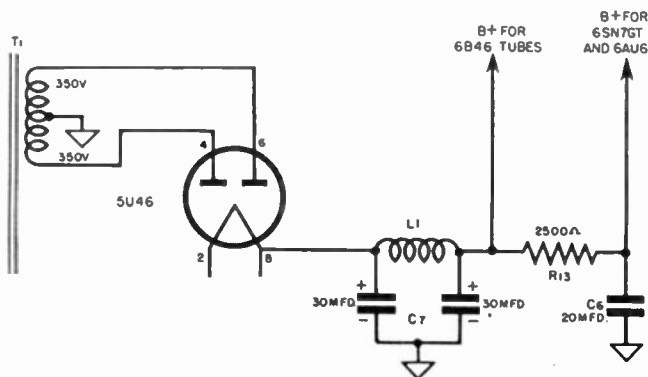

Fig. 5-5. The power supply circuit.
b) *Power Supply Circuit.* See Figure 5-5.
Connect a short jumper wire between socket terminals 2 and 7, then connect 7 to chassis. The junction of the plate and screen resistors, R3 and R4, is wired to B plus, at the far end of the filter resistor, R13. Reference back to Figure 5-5 will show the prop-